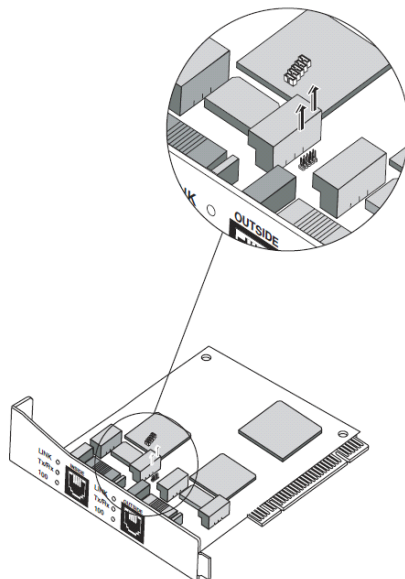

Figure 1-4 LEM jumper location
4. Remove the jumpers from all other LEMs (including the direct standby LEM), as shown in Figure 1-4.